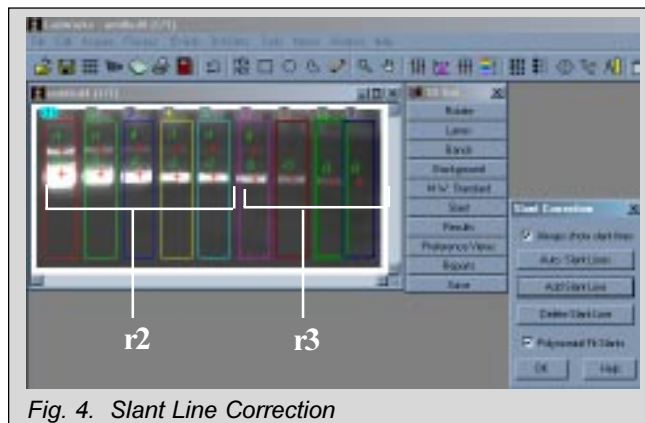
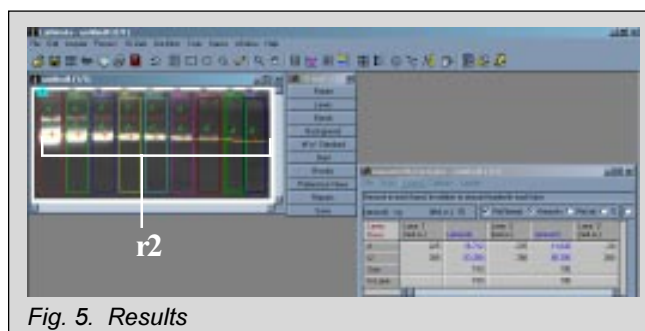

Fig. 4. Slant Line Correction
Fig. 5. Results
- If bands are slightly curved you'll need to use the slant correction. Select the Slant tool on the button bar. Click on the "Auto. Slant Lines". You may need to manually adjust the slant lines by clicking on "Add Slant Line". In the example (Fig. 4), the r3 labeled bands are corrected to r2 bands in figure (Fig. 5).